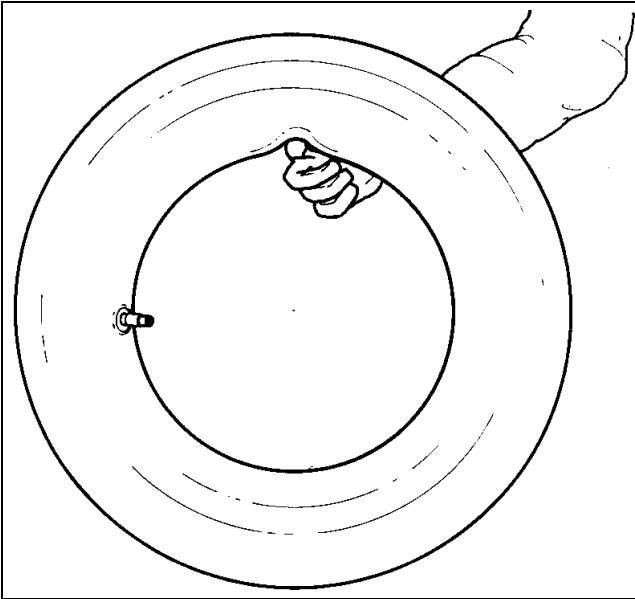

Fig.24
C. Inflate the tube slightly; if held with the index finger it should bend a little (Fig.24).